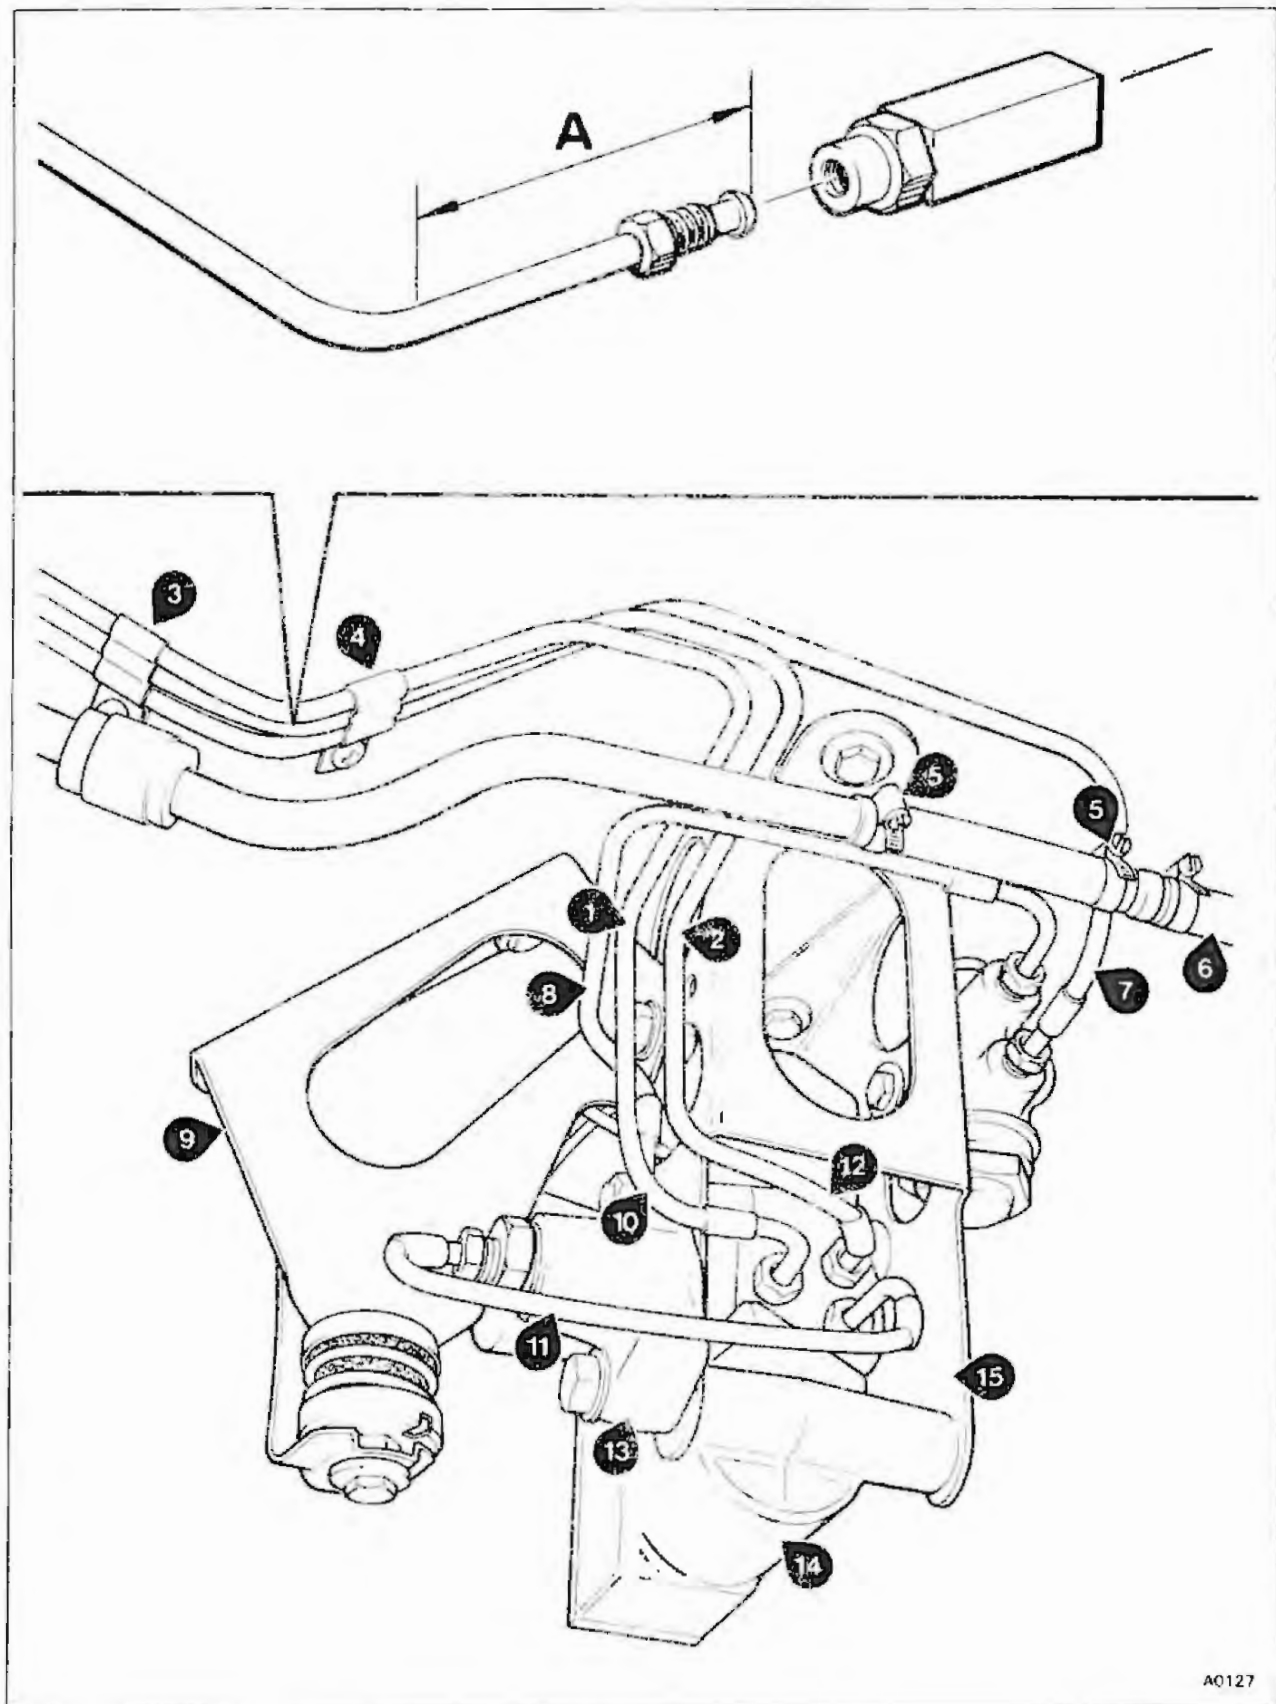

Fig. 1
- 7 On cars other than Turbo or petrol injection models, clamp the hose in the fuel return line, on the fuel tank side of the non-return valve (see fig. 1, item 6).
- 8 Slacken the clips (see fig. 1, item 5) and remove the hose from the non-return valve.
- 9 Remove the clips securing the hydraulic pipes to the underfloor of the car (see fig. 1, items 3 and 4).
- 10 On cars fitted with hydraulic filters adjacent to the priority valve, lower the priority valve to height control valve pipe (see fig. 1, item 12). Using a pipe cutter, cut the pipe at the third bend from the end of the pipe (see fig. 1, item 2).
- 12 On earlier cars without filters, cut and flare the priority valve to height control pipe (see fig. 1, item 12) at the position marked A in figure 1 i.e. 44mm (1.75 in) from the bend. The filter can then be fitted in the position indicated.
- 13 Lower the height control valve to reservoir return pipe (see fig. 1, item 10). Cut the pipe (see fig. 1, item 1), fit a unified pipe union and reflare the pipe.